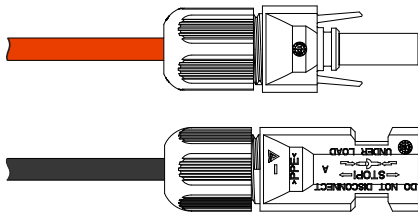

Figure3-38 Tighten the lock nut
- Step 4 Turn the locking nuts on the positive and negative connectors respectively to the corresponding insulating shells and tighten, as shown in Figure 3-38.